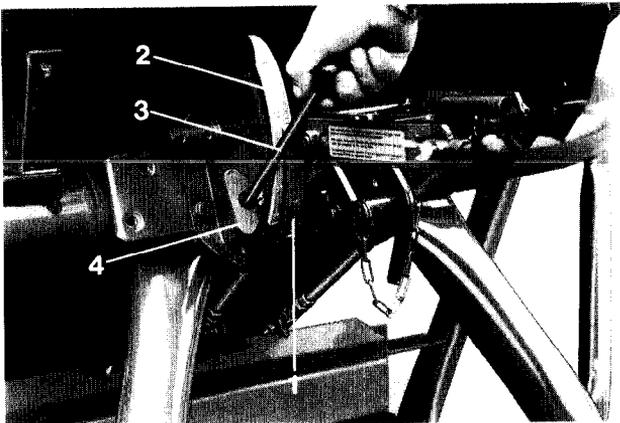

Fig. 3
- 2.2.68 When spreading superphosphate, damp or poorly stored fertilizer, it is advisable to remove all excess fertilizer at the bottom of the hopper, hopper opening, deflector plates, and spreading discs by using the extension handle (Fig. 3/3) for this purpose. Furthermore the remainder of fertilizer sticking to **spreading blades** and **deflector plates** has to be **removed**.
The rate setting is done by adjusting the stop (Fig. 3/1) on the scale (Fig. 3/2) with the aid of the extension handle (Fig. 3/1). Firstly loosen the wing nut (Fig. 3/4) then adjust the stop (Fig. 3/1) to the required position, this being read from the calibration chart. Make sure the wing nut (Fig. 3/4) is retightened securely.